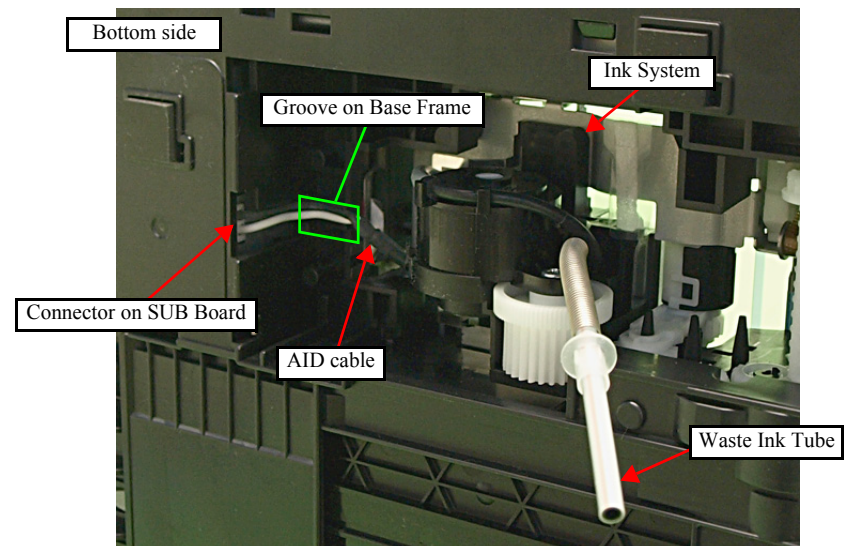

Figure 4-86. Removing the Ink System (2)
4. Disconnect the AID cable from the connector on the SUB Board. (See Fig. 4-86.)
7. Connect the AID cable to the connector on the SUB Board, and route the cable through the groove on the Base Frame. (See Fig. 4-86.)